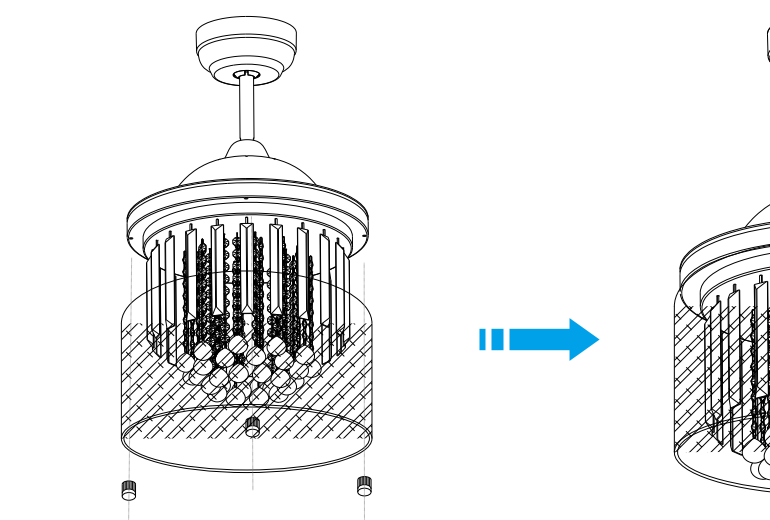

Fig 7.2
7.2 Attach the shade to the light kit plate with 3 nuts as Fig 7.2.